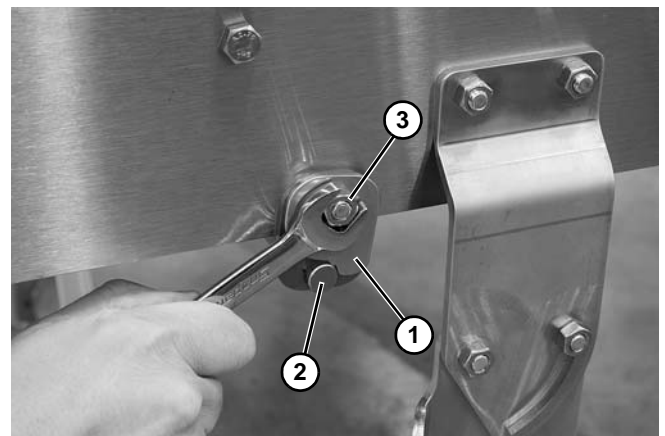

Figure 23
6. Rotate return clip (Figure 23, item 1) down against shaft (Figure 23, item 2) on both sides of conveyor. Tighten nuts (Figure 23, item 3).